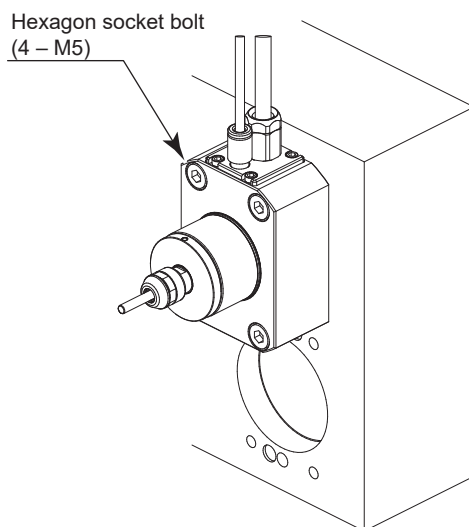

Fig. 18
- ① Insert the $\phi 42$ mm spindle body housing section into the machine tool holder with the $\phi 5$ positioning pin facing downward. (Installation on the upper station is recommended.)
- ② Secure the motor spindle through the four mounting holes using the supplied hexagon socket bolts (M5 $\times$ 30) (Fig. 18)